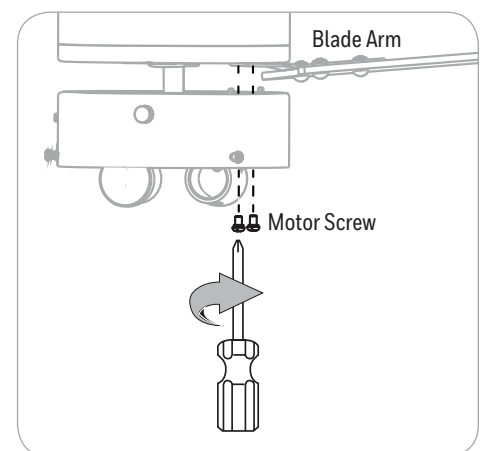

Figure 5.6
6. Install the blade arm to the underside of the motor assembly using the previously removed motor screws and washers (Figure 5.6).